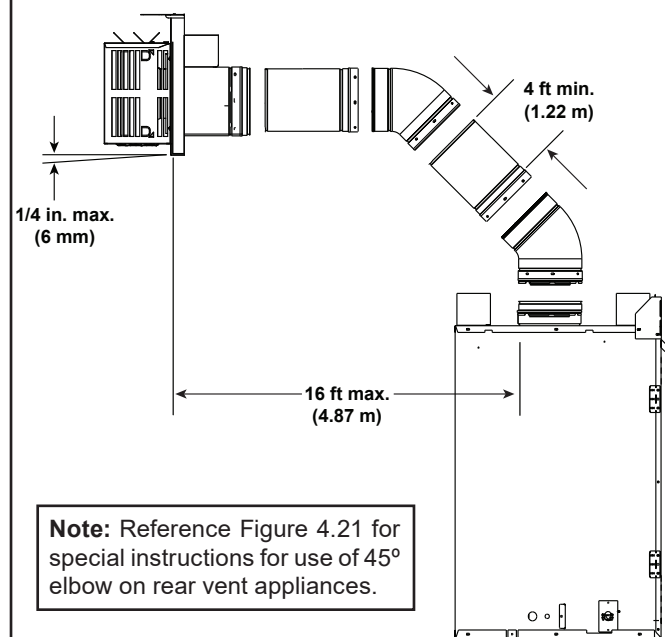

Figure 4.8
To replace the first starter elbow with two 45° elbows, refer to Figure 4.8. All other 90° elbows can be replaced with two 45° elbows.
- Horizontal termination cap should have a 1/4 inch downward slant to allow any moisture in cap to be released. See Figure 4.8.